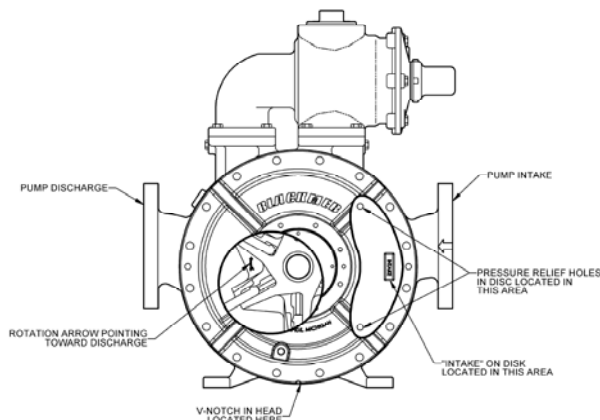

Figure 10
1. **LINER** – The liner has a close fit with the casing (12); take care to avoid finger injury during installation.
- a. Align and start the liner (41) and liner key (74) together into the pump casing. The word "INTAKE," which is cast into the liner, must be towards the intake side of the pump. NOTE: The intake port is marked with an inward facing arrow.
- a. Place a disc (71) on the head (20 or 20A) with the counter-bored screw holes facing up.
- b. Position the disc so that **when the head is mounted** with the drain hole and V-notch down, the word "INTAKE" on the disc will be towards the intake side of the pump. The two disc holes must be in the 2 and 4 o'clock positions if the inlet is on the right (see Figure 10).
- f. Install and tighten the head capscrews (21) uniformly, making sure the head O-ring (72) slides into place without damage.
4. **SLEEVE BEARINGS (Bushings)** – If the sleeve bearing (24) has been removed from the hub (20C), a new bearing must be installed prior to attaching the hub assembly to the head.
- b. Place the bearing (24) in the bearing bore on the inside face of the hub (20C) with the tapered end inward.
- a. Before attaching the hub assembly (20C) to the mounted head (20), grease the three head chamfers.
- a. Partially install the rotor and shaft (13) into the open side of the pump and through the bore of the installed head (20). Be careful not to damage the disc face with the shaft end. **NOTE: When installing the rotor and shaft, the rotation arrow on the rotor must point in the direction of pump rotation-towards the discharge side of the pump when the arrow is positioned directly below the shaft.** See Figure 10.